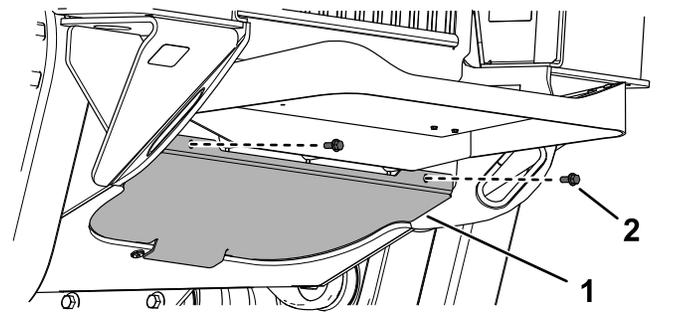

Figure 42
1. Remove the 2 bolts securing the bottom plate (Figure 42).